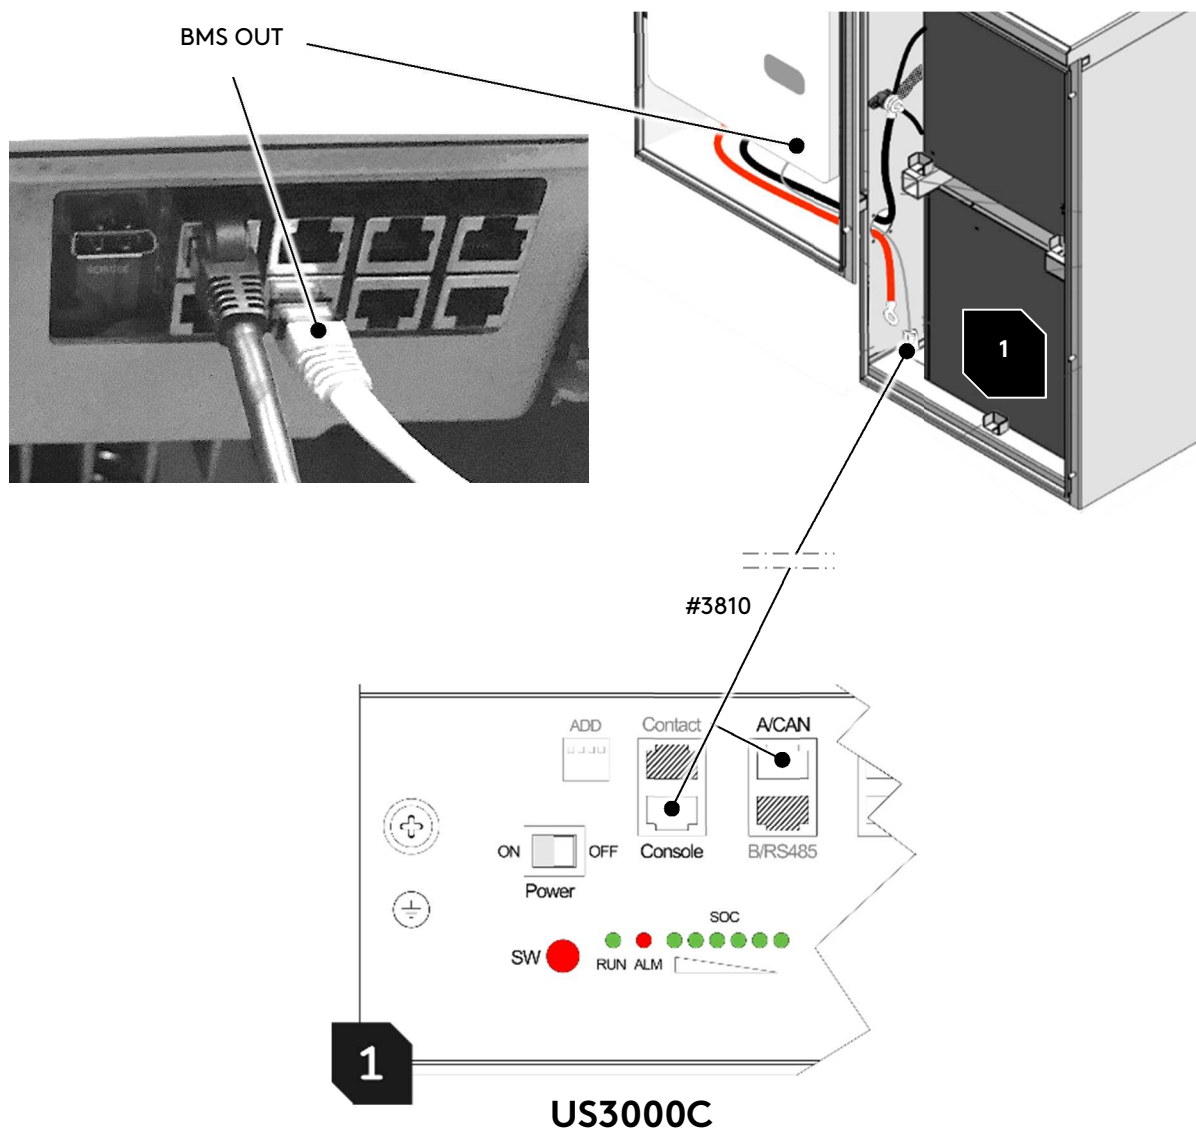

Figure 11: PCS to BMS communication cable connection.
2. Route the other end of the cable through the PCS port hole and terminate in the cable in the [BMS OUT] port as shown in figure 11.